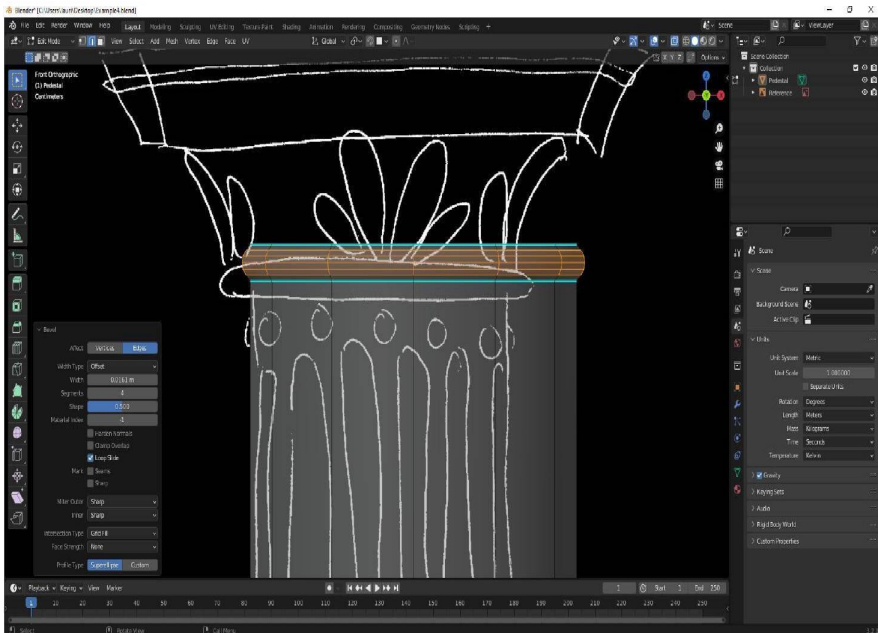

Figure 4.22: Beveling the inserted, outward scaled edge loop, to create a rounded extrusion
10. With the new edge still selected, press **Ctrl + B**, and then move the mouse cursor away from the cylinder to increase the bevel amount. Before confirming, roll the mouse wheel 3 clicks forward, which will increase the number of segments added to 4. This will provide the 6 minimum sides to make our curve appear rounded. Then continue moving the mouse toward or away from the cylinder as needed, until the extrusion is rounded and the segments are evenly spaced as shown in *Figure 4.22*. Left-click to confirm: